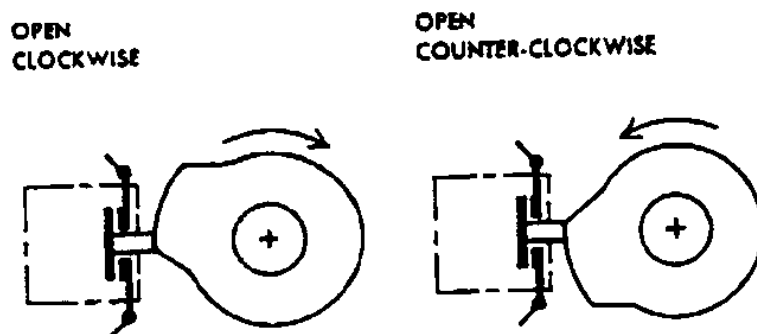

Fig. 4. Setting the CLOSING limit switch.
b. Set the top red cam as shown in Fig. 4.